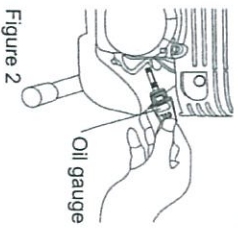

Figure 2
b. Engine oil inspection: Set the engine in a level position, remove the oil cap, and inspect to see whether the oil level is up to the bottom of the oil port (Figure 2, 3). If the oil level is too low, add new oil until the level reaches the bottom of the oil port.